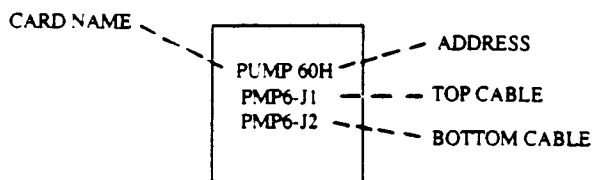

Fig. 5.5. System Interface card cage layout.
4. Unplug the cables for the card to be configured and remove the card from the system interface. It may be necessary to remove cables from other cards in the process; keep track of the cables. If cables are crossed, refer to Figure 5.5.
5. Before moving any cards, care should be taken to ensure the correct cables will be connected back where they belong. Figure 5.5 shows the card cage layout and cable connections. Refer to this drawing if cables get crossed.
- Connect either cable AD8-P2 or AD7-P2 (see Figure 5.5) to the top of the A/D card, and cable number AD8-J2 or AD7-J2 to the bottom connector on the A/D card. If you are upgrading from a 520 system, remove the jumper plug on the CPU card and discard. Attach cable # CPU-J3 to the CPU card and then to your new A/D card.
3. The card is designed to be inserted into the system interface in the open slot farthest to the right. Depending on your current system configuration this will be either slot 4, 5, or 6. See Figure 5.5 for card configuration. Carefully align the card in the card slot and slide it into the rack. When the card edge contacts the connectors in the rear of the system you will have to push firmly to get it to seat properly. **DO NOT FORCE THE CARD INTO POSITION.** It should be a snug fit.